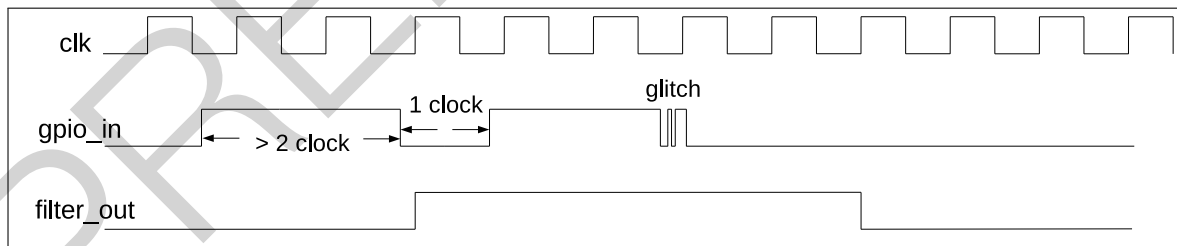

Figure 5-5. Filter Timing of GPIO Input Signals
2. Optionally enable the filter for pin input signals by setting the register `IO_MUX_GPIO $n$ _FILTER_EN`. Only the signals with a valid width of more than two clock cycles can be sampled, see Figure 5-5.